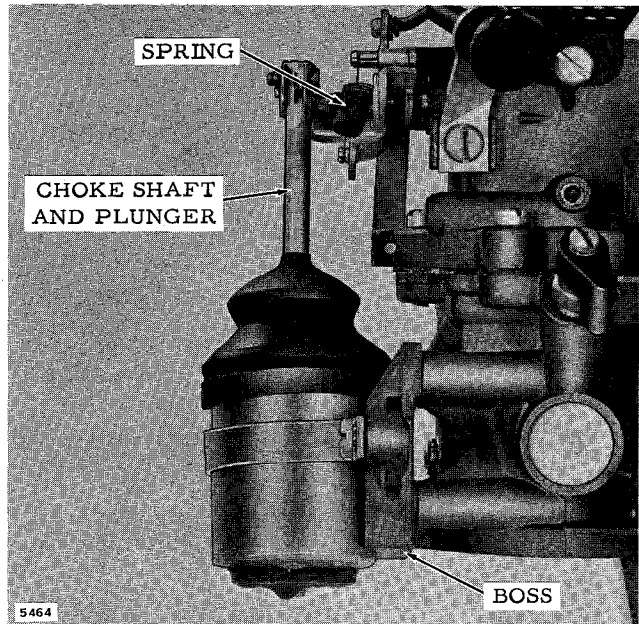

Figure 3-25. Choke Solenoid Adjustment
c. Adjust position of choke solenoid so that choke valves close when plunger bottoms in solenoid. Closed end of solenoid should be approximately flush with boss. See Figure 3-25. With choke knob pulled all the way out, choke shaft should have 1/16" free movement.